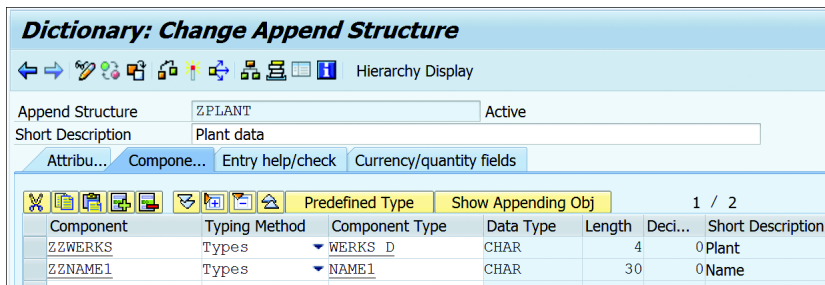

Figure 10.33 Creating Append Structure
4. Maintain the components of the append structure. The field names should start with ZZ or YY, as shown in Figure 10.33.